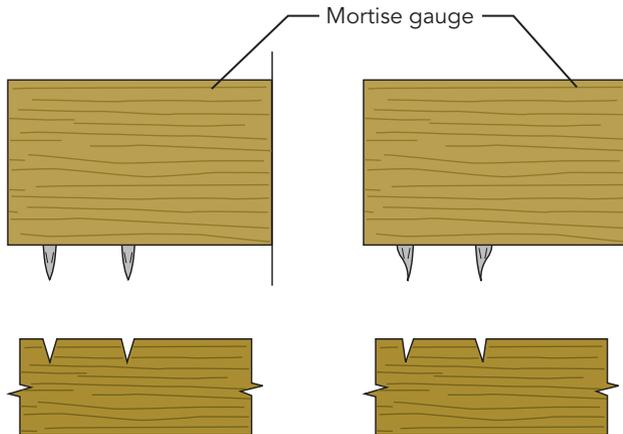

Figure 5.34 Spurs of mortise gauge filed to cut vertical shoulders on inlay grooves
- 1 Grooves in which the bands will be glued are marked parallel to and an equal distance from the edges of the work with a cutting gauge (ground edge of blade facing inwards). If a marking or mortise gauge is used, the conical spurs, which make a V-shaped mark, must be sharpened with a fine file so that the outside edges of the grooves will be cut square to the face of the work (Figure 5.34). Gauge marks must not run beyond the required dimensions of the groove.